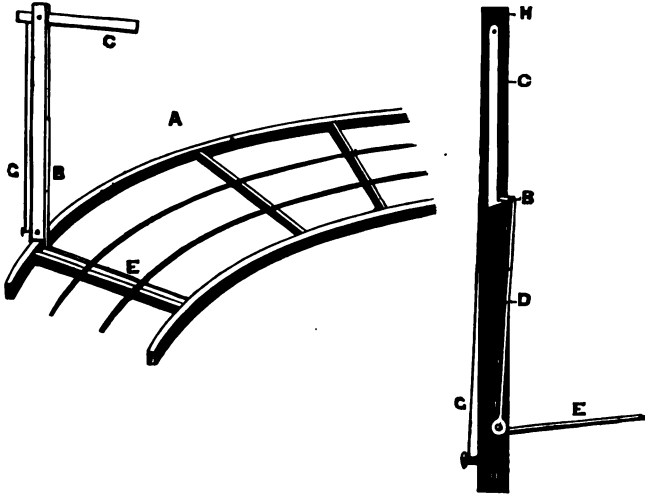

FIG. 114.—SELF-ACTING SIGNAL.
A self-acting signal, for the railroad already described, is easy to make, and should stand near a neat little station of wood. A (Fig. 114, p. 237), shows it as it would appear, standing attached to the outer hoop of the railway; C is the signal arm standing at "dangerous" or "stop." After having been released by the passing engine, the arm is raised to this position and held by an indiarubber cord, marked G. This may be the finest of ordinary elastic. B is part of the bent lever seen in the section on a larger scale at the second B, the signal post being double, made of two neat strips, kept apart and parallel by blocks (H) at top and bottom. When the arm of the signal is down it is caught by the hook at B, and the horizontal arm (E) of the bent lever comes just above the level of the rail, and, therefore, will be depressed as the wheels of the engine pass over it. By the depression of E the hook (B) is drawn away from the end of the arm (C), and instantly the latter flies out, owing to the elastic spring, and stands at danger. It has, of course, to be lowered by hand until again caught by the hook of the bent lever. It will be found much easier to let the arm be raised by a spring, because if it is done by a lever direct the latter will need more power